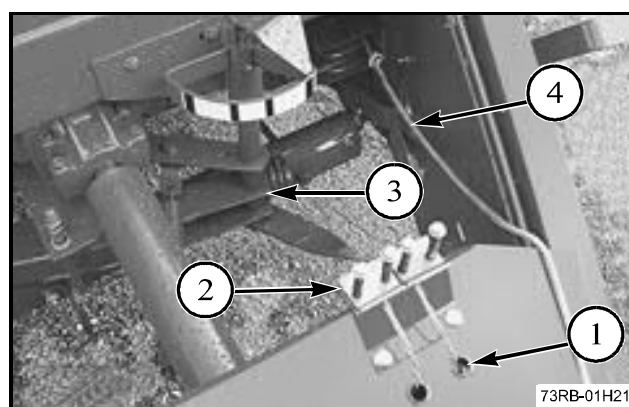

FIG. 13
FIG. 13: The bales are wrapped with twine when the desired size is reached. The twine box (1), located in the tongue of the baler, holds two balls of twine. The twine feeds through the openings in the cover of the twine box, then between the twine tension plates (2) and down through the twine arm (3) and the main twine tensioning spring plates within the twine arm.